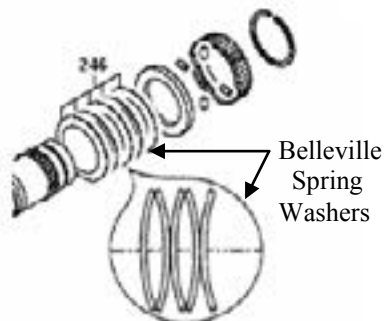

fig. 7
53, 56 Reassemble Belleville Spring washers (56) onto spindle (53) as shown in fig. 7.